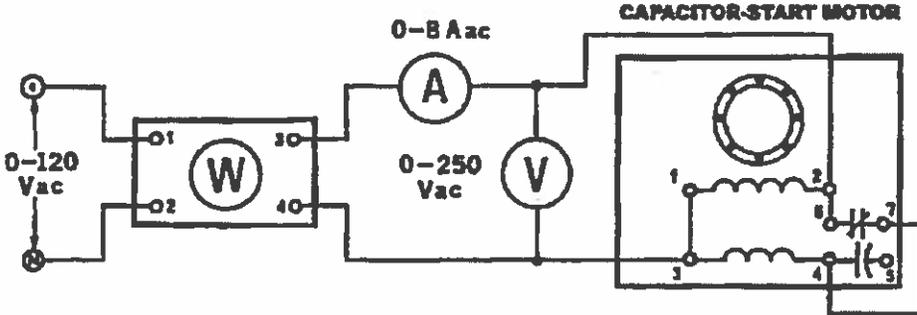

Figure 33-4.
- 5. Using your Single-Phase Wattmeter, AC Ammeter and AC Voltmeter, connect the circuit shown in Figure 33-4.